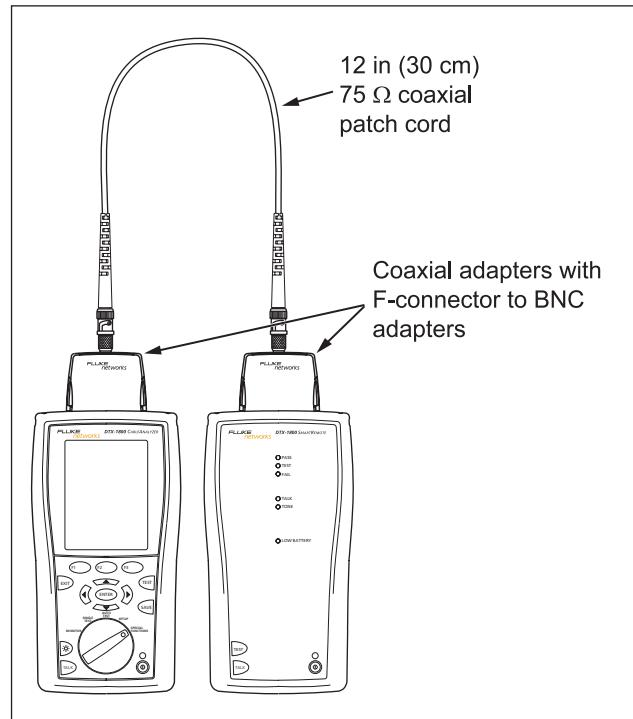

Figure 17. Coaxial Reference Connections
- 1 Attach coaxial adapters to the main and remote testers, screw in the F-connector to BNC adapters; then make the connections shown in Figure 17.